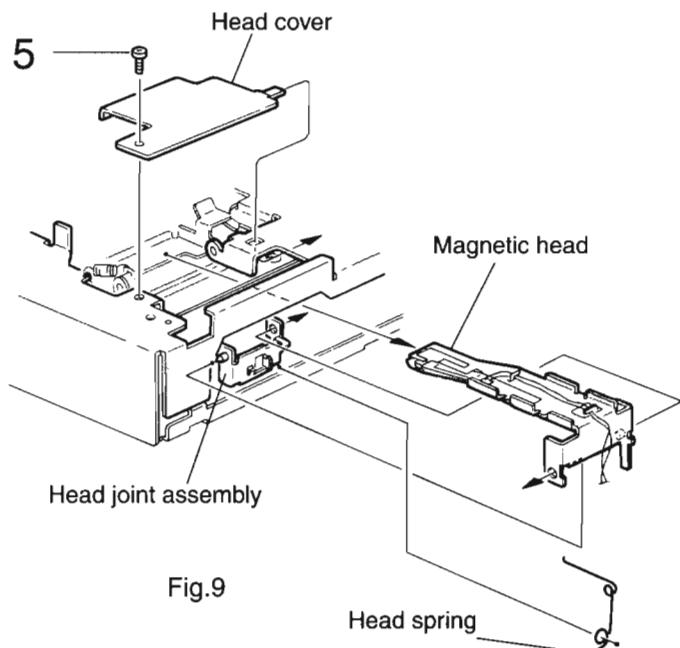

Fig.9
■ Removing the Magnetic head (see Fig.9 and 10)